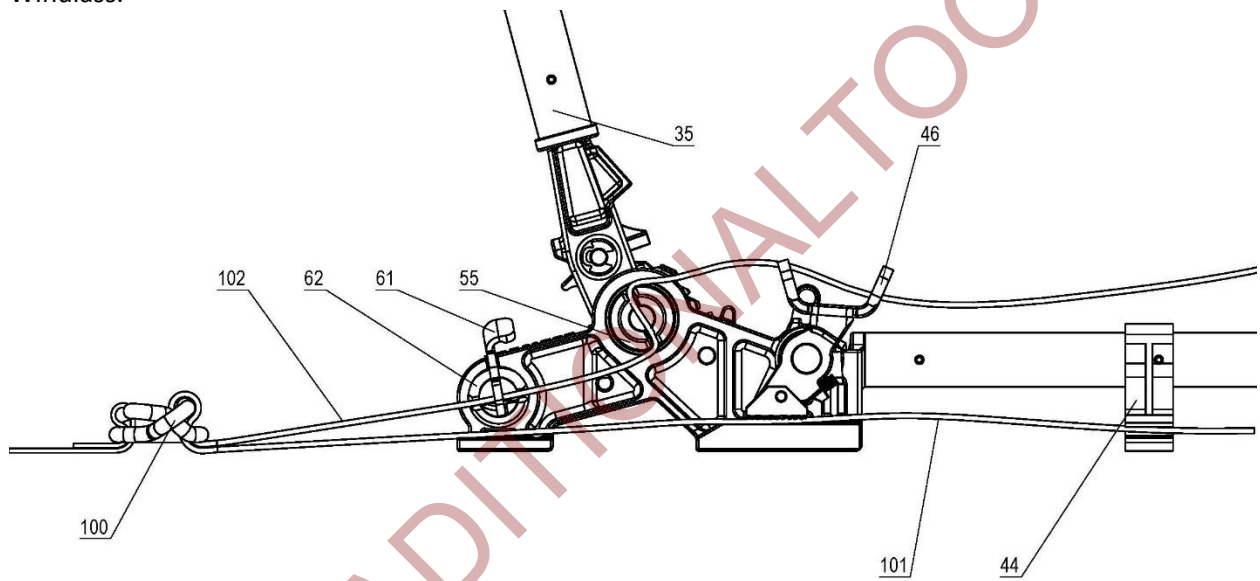

Fig. 5
3. Apply tension by ratcheting **Tension Handle 35** as shown on Fig. 5. If it becomes necessary to loosen the tension without cutting the strap, press down on Tension Handle to release Gripper Foot and Windlass.